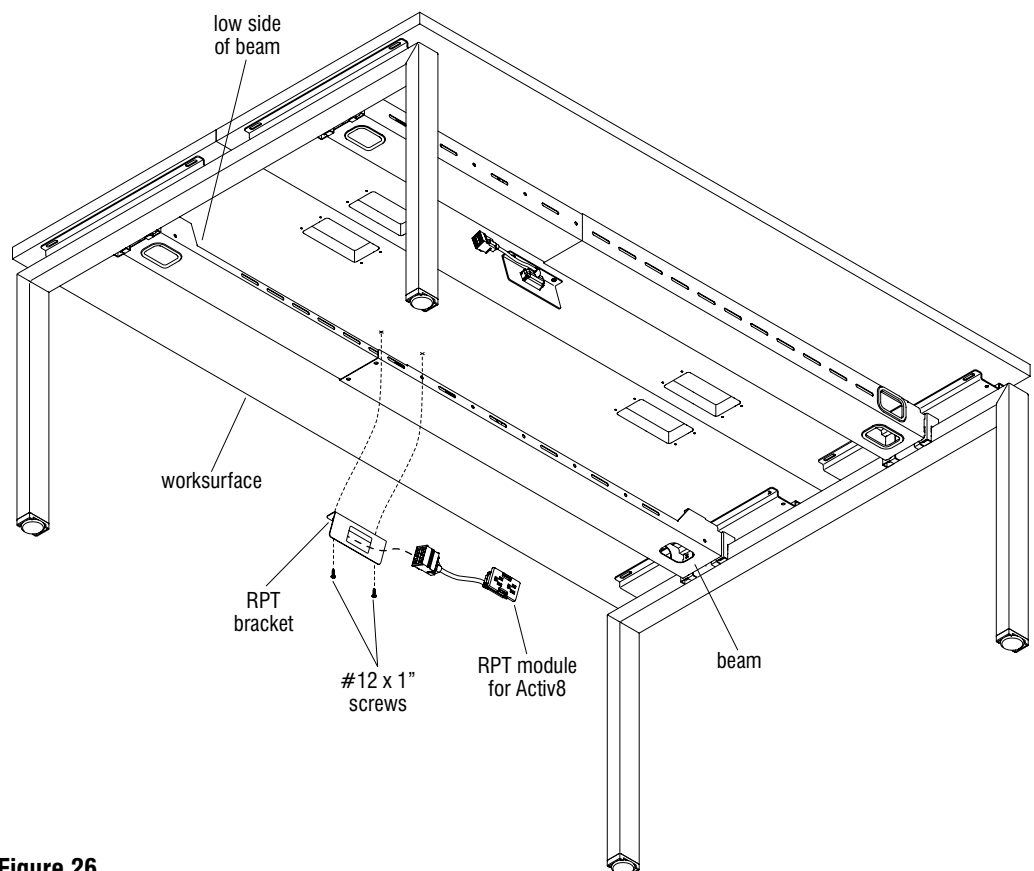
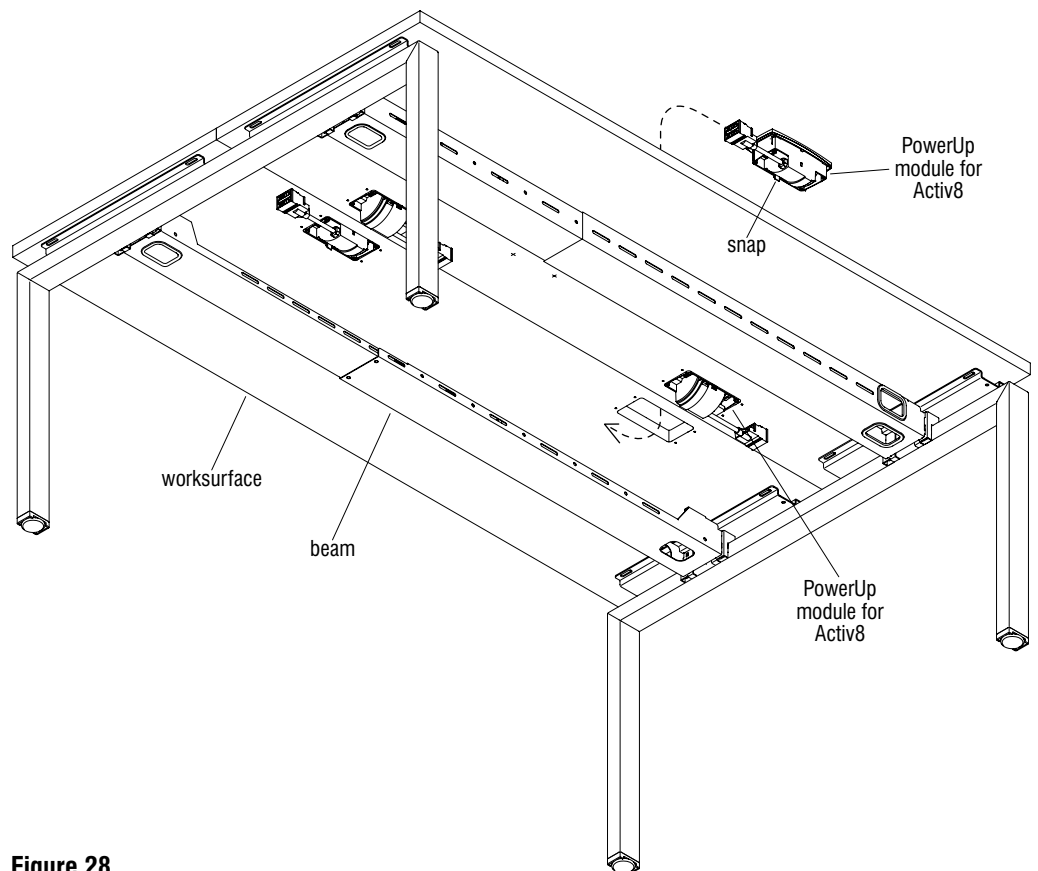
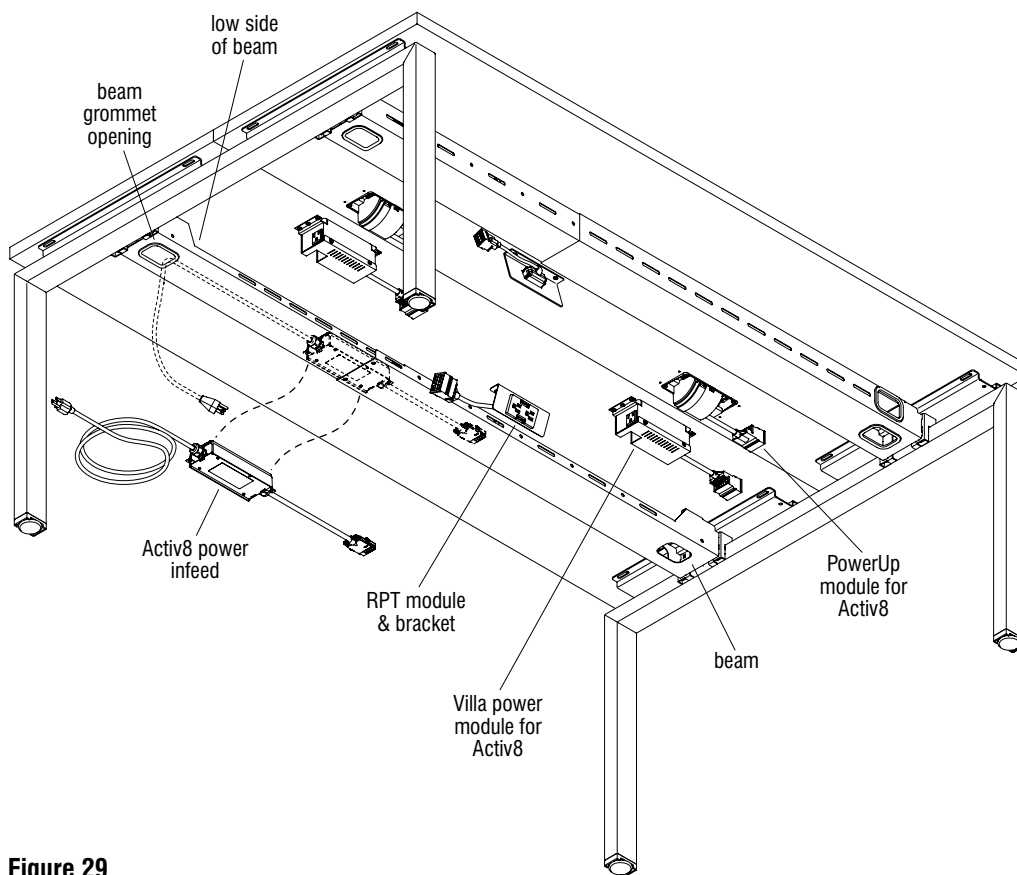

Figure 26
Figure 28
Figure 29
4. Go now to page 65 and follow instructions for "Activ8 Power Infeed" (Figure 29), then reference "Dual-Sided Benching Connections with Source Power for Activ8" on page 67 (Figure 31).
1. Choose an appropriate installation location for the RPT bracket or data bracket(s) (Detail F), at the rear of the worksurface, near the low side of the beam with the back of the bracket facing the beam as illustrated (Figure 26). Using the two mounting holes of the brackets as a template, mark drilling locations to the underside of the worksurface and drill to no more than  $\frac{3}{4}$ " deep. Take care to not drill too deep as damage to the worksurface may occur (Figure 26).
2. Position the bracket(s) over the pre-drilled holes as illustrated and secure using two #12 x 1" screws (Figure 26).
3. Feed the connector end of the RPT module for Activ8 through the rectangular opening in the RPT bracket and snap the module into place such that the receptacle face is toward the center, where the two worksurfaces meet (Figure 26 & Detail F).
1. Orient the PowerUp module for Activ8 as shown and route the connector end down through the worksurface cutout. Press the module down firmly into the cutout to secure in place, making sure the front and rear snaps catch under the cutout bottom edge of the worksurface (Figure 28 & Detail H).
5. The PowerUp Module may be removed without tools by squeezing the front and rear snaps located on the module under the worksurface while pushing up the module (Figure 28).
6. Go now to page 65 and follow instructions for "Activ8 Power Infeed" (Figure 29), then reference "Dual-Sided Benching Connections with Source Power for Activ8" on page 67 (Figure 31).
2. Take the Activ8 power infeed unit in hand and route the power cord plug-end into the rear of the beam at the low side, and then send the plug-end down through the beam grommet opening, at the location close to the power source (Figure 29). Set the power infeed box into the beam as illustrated and position it so the connector end can reach the connector end of either the RPT module for Activ8 (page 62, Figure 26), Villa Power module for Activ8 (page 63, Figure 27) or PowerUp module for Activ8 (page 64, Figure 28).